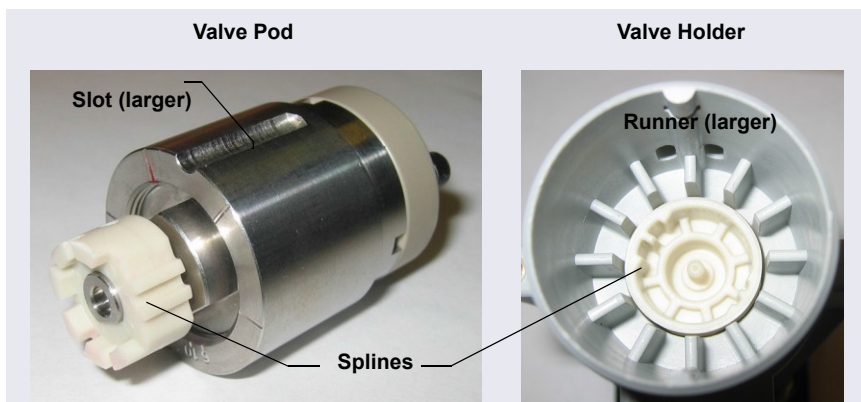

Figure 10-38. High-Pressure Valve Pod and Pod Holder
7. Align the slots in the new pod (4-port, P/N 074699; 6-port, P/N 075971; 10-port, P/N 075972) with the runner in the valve holder on the DC or AM (see Figure 10-38). Valve pods are keyed to fit only one way (one slot
8. Also verify that the two splines on the pod align with the matching splines inside the valve holder (see Figure 10-38). If necessary, twist the end of the pod to adjust the position of the splines.